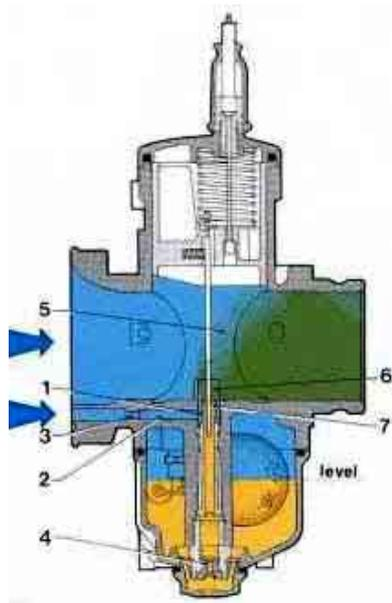

fig. 22
**Figure 22** shows the full-throttle mechanism used on two-stroke engines which features an extended nozzle (6) at the end of the atomiser (7); this produces better performance during acceleration.